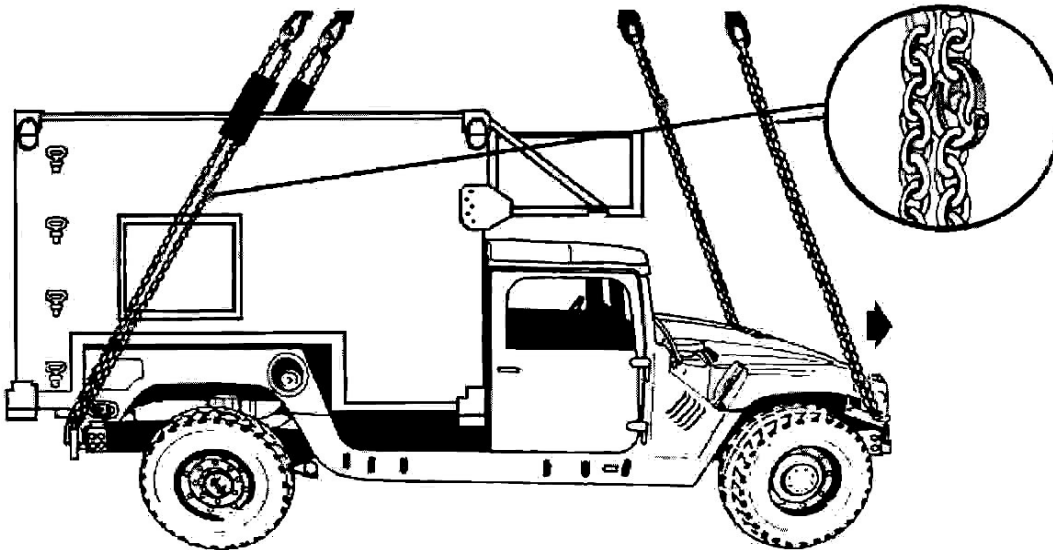

Figure 3-170
12. Check the rigging to ensure it will not become entangled with the load (see Figure 3-170).